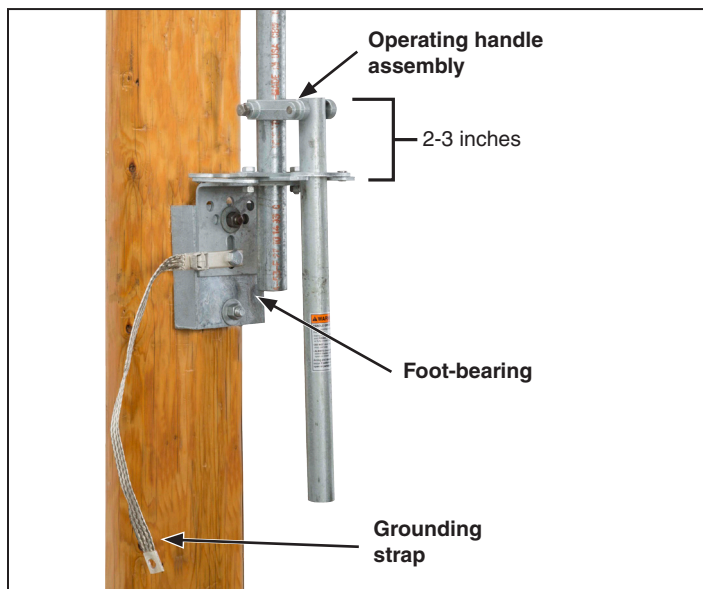

Figure 10. Install the foot-bearing assembly so the operating handle assembly is 2 to 3 inches above the foot-bearing assembly.
STEP 14. Slide the foot-bearing assembly onto the lowest section of pipe at the position shown on the erection drawing. See Figure 10. Adjust the operating handle assembly until it is 2 to 3 inches above the foot-bearing assembly. Tighten the piercing set screws, piercing the pipe. Continue turning until a firm resistance is felt.